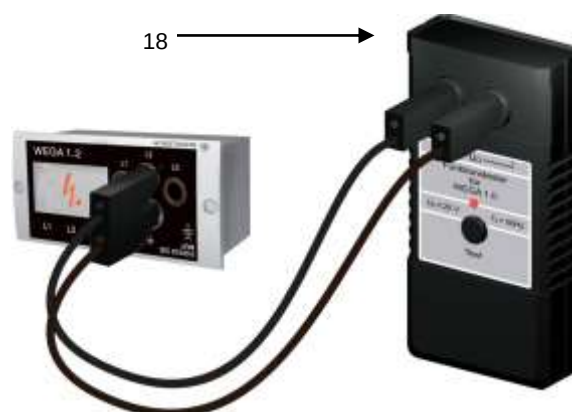

Figure 4-9: Using the tester
5. When the arrows and dots are not visible then check the operation of the voltage detection using the voltage detection tester (18) see Figure 4-9: